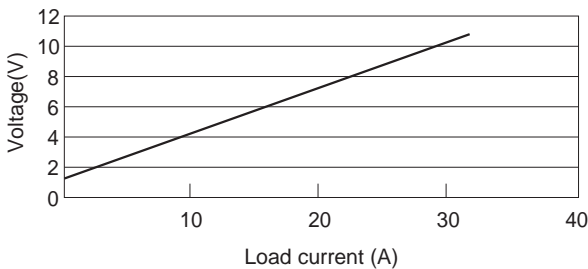

Fig.2.4 Load current conversion graph (ADA600F-24)
■It is possible to monitor load current by measuring CB voltage that is between CB terminal and -V terminal. The relation between CB voltage and load current is shown in Figs.2.4 to 2.6.
Note : Figs.2.4 to 2.6 are references, and are not meant to be taken as guaranteed values.